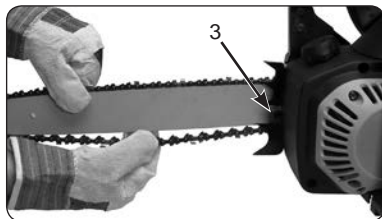

Fig. 5
1. Hold nose of guide bar up and turn adjustment screw (3) clockwise to increase chain tension. Turning screw counterclockwise will decrease amount of tension on chain. Ensure the chain fits snugly all the way around the guide bar (Fig. 5).